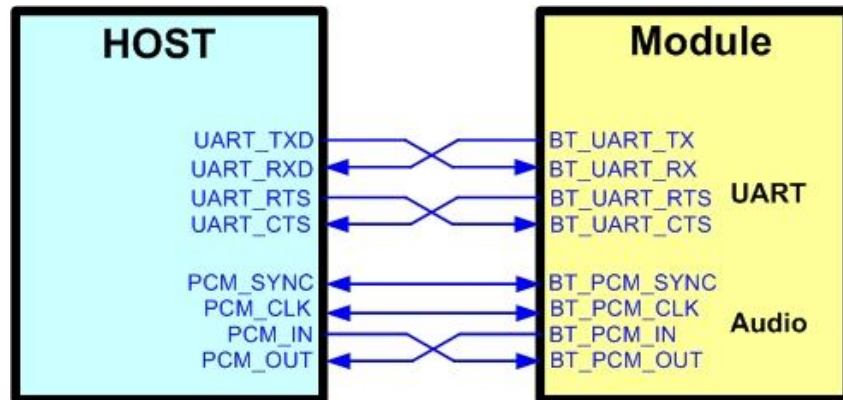

Figure3. Bluetooth verification connection interface to Host UART
- ❖ Refer to Figure3 UART pin definition connects the J1 interface of AP625X evaluation board to Host UART control interface.